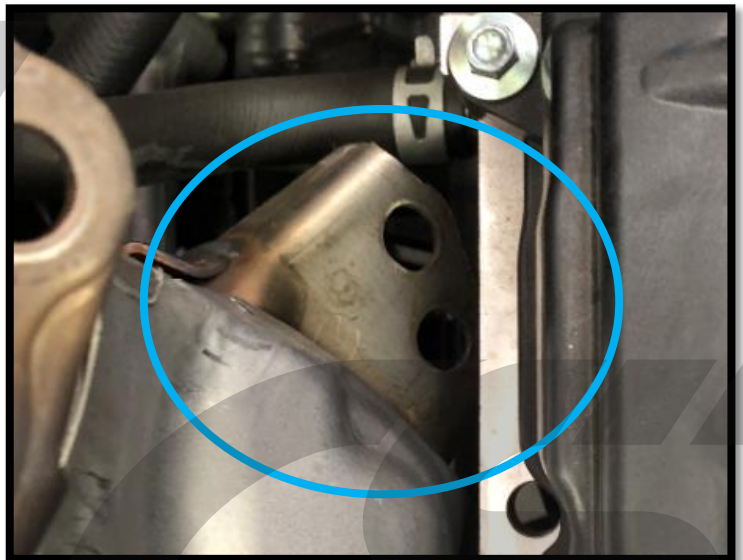

Figure 4h
- j) The other support bracket mount will now need to clear the top of the engine. This is the mounting that was removed in Step 4b. You will need to rotate the OEM header until you find the orientation that works for getting this mount clear of the top of the engine. Mounting point circled in blue in Figure 4f and Figure 4h.